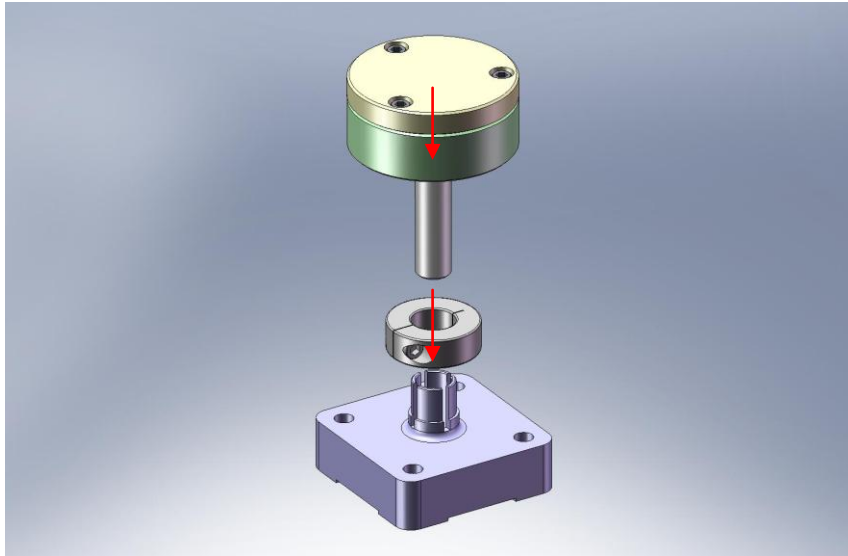

Figure 3.34. Use shaft collar to clamp Sensor Target Face Assembly to Sensor Target Mount.
- Slide a loosened shaft collar over the collet in the **Sensor Target Mount** (D071160). Next, insert the **Sensor Target Face Assembly**, as shown in Figure 3.34.